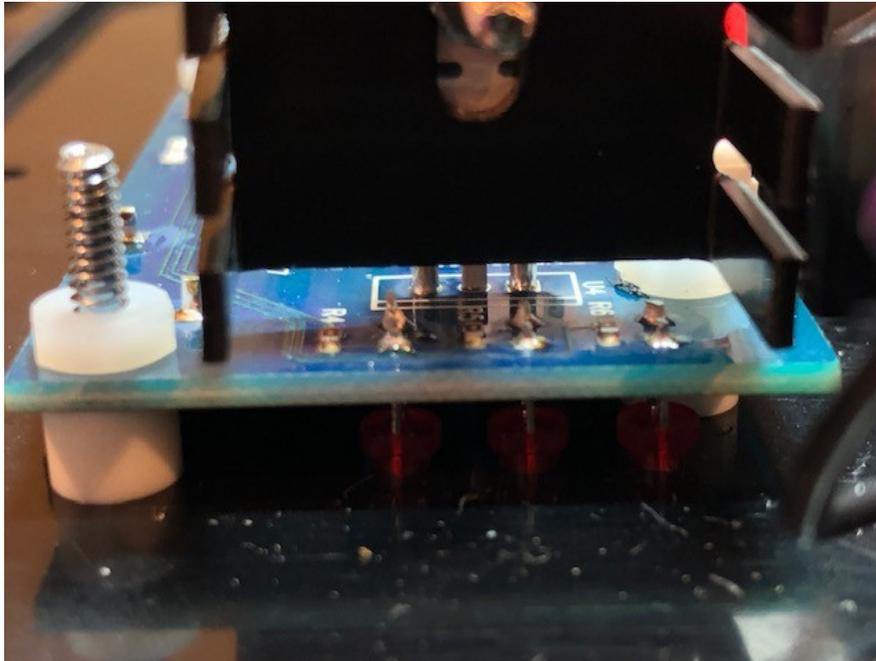

Fig 8
- e) Place lock washer (3) and nut (4) on screw and tighten snugly. Do not over tighten, it will deform the heat sink and reduce the contact surface and heat transfer.
- f) Adjust the heat sink height so the bottom of the heat sink (facing the circuit board) is not touching any components on the circuit board. It should be about 1/8th to 3/16th inch from the surface of the circuit board. (Fig 8)